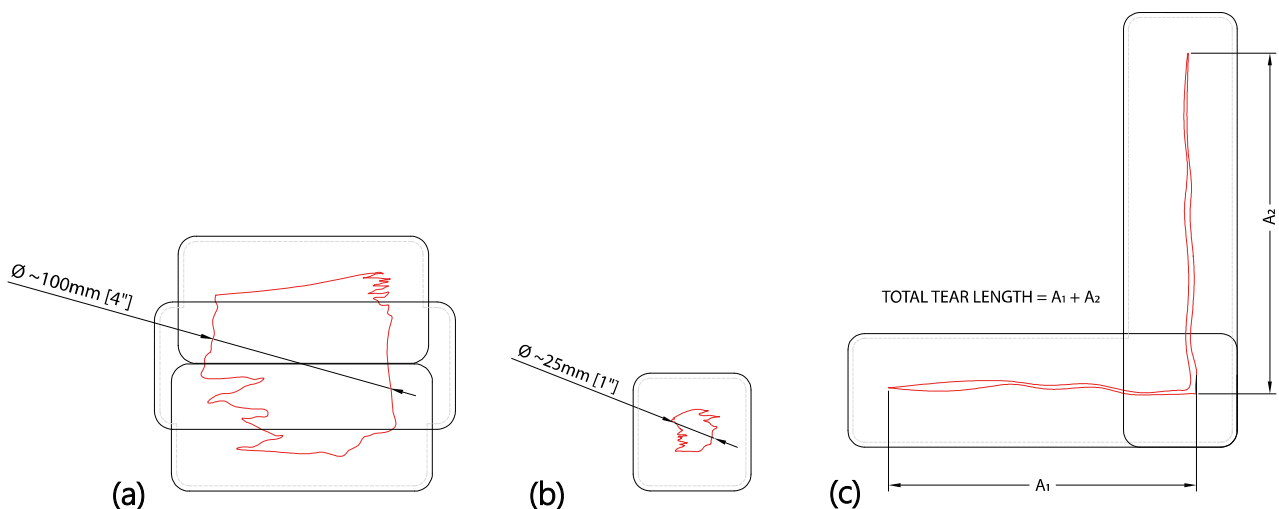

Figure 1 – Examples (not to scale)
- 6) Should the repair require the overlay of several MagicPatch pieces (ref. Figure 1-a below), make sure the minimum overlap from step (4) above is adopted.